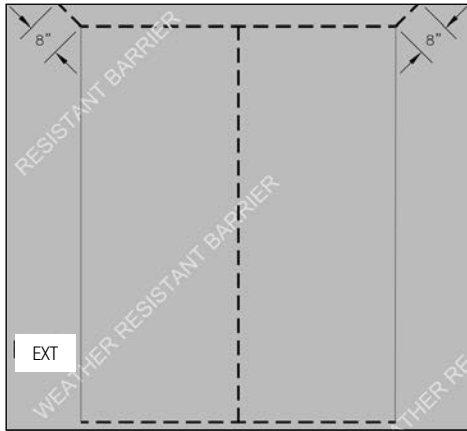

FIG. 5
- E) Make an "I-Cut" in the weather-resistant barrier (WRB). Begin with a horizontal cut along the bottom and the top of the rough opening. Then make a vertical cut in the center from top to bottom. (Fig. 5)
- F) From the exterior, cut the top of the WRB to form a flap. (Fig. 5 & 6)